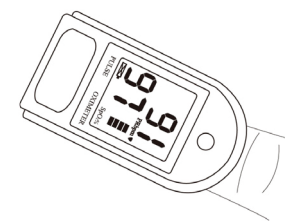

Figure 7. Put finger in position
1. The finger should be placed properly (see the attached illustration of this manual, Figure 7), or else it may cause inaccurate measurement.
- 7.2 Open the clip as shown in Figure 7.